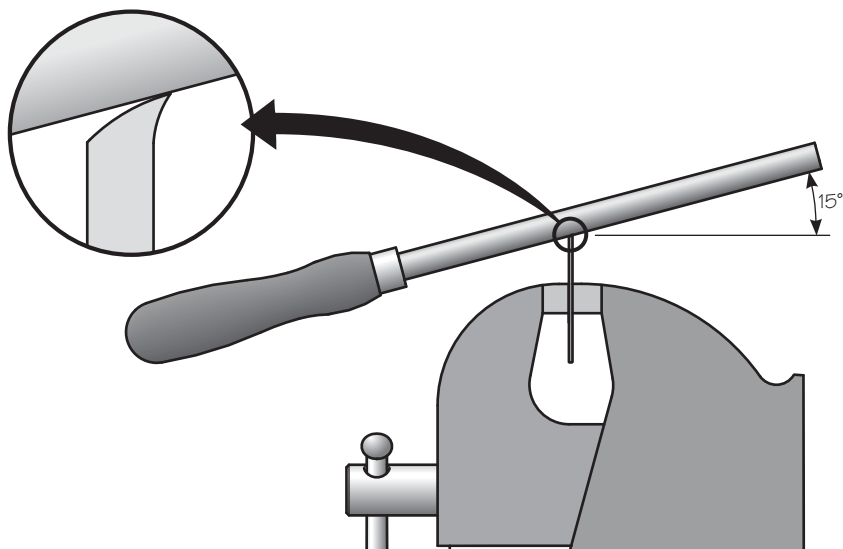

Figure 5: Burnishing.
Step 3 — Burnishing: With the blade held firmly in a vise, use a burnisher (the Veritas Tri-Burnisher 05K32.01 is well suited) to create a hook as shown in **Figure 5**. Use three or four even firm strokes across the entire edge of the blade at the same angle as the bevel. Raise the burnisher handle slightly and take three or four more strokes. Finish by taking three or four strokes with the burnisher 15° from horizontal, as shown in **Figure 5**. The first few times you do this, sight against a reference tool such as a sliding bevel or engineer's protractor set to the desired angle.